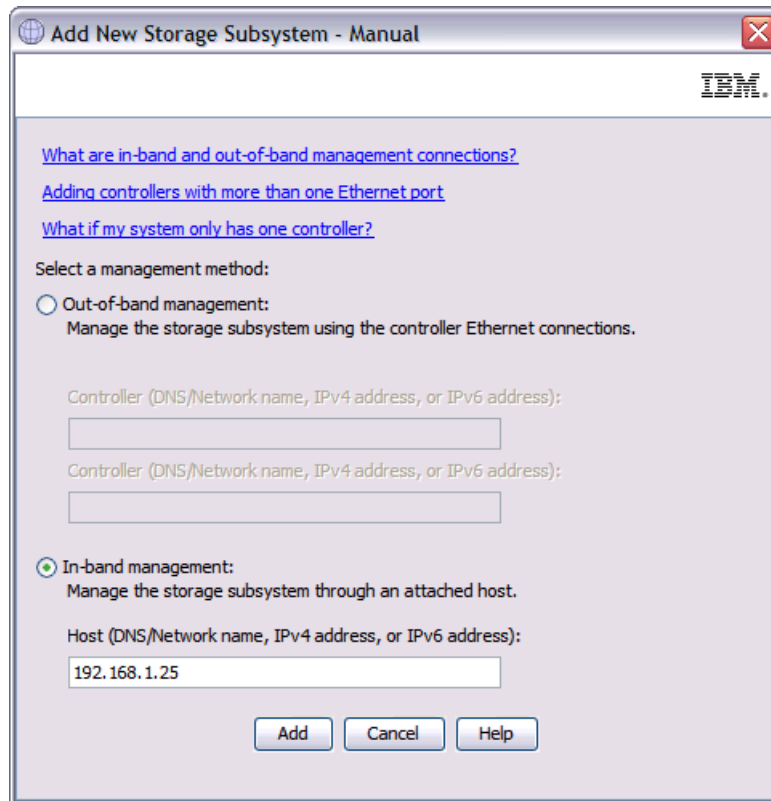

Figure 5-28 In-band management
- For In-band management, select the In-band management option and enter the IP address of attached host as shown in Figure 5-28 on page 155.